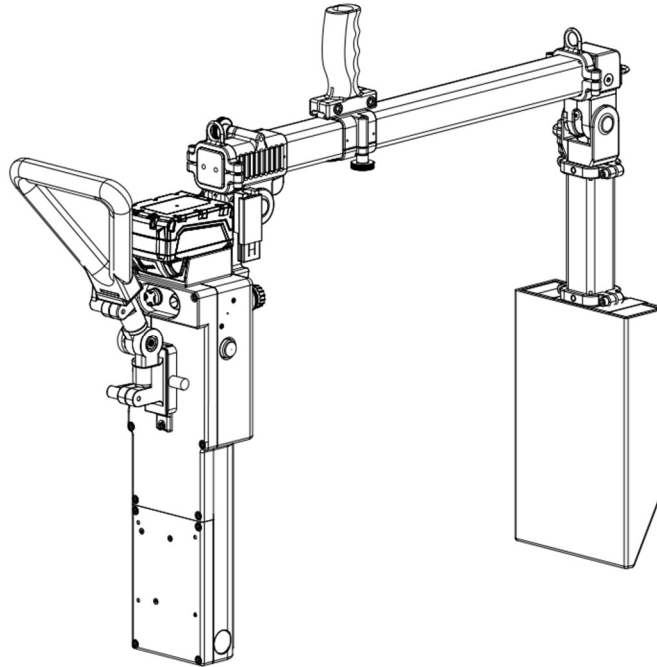

Figure 19 - Optional Handle Configuration Example
- The OpenVision DX utilizes standard picatinny rails and allows the handles and grips to be configured in multiple ways to suit different applications (Figure 19) shows one such configuration. The grip is moved to the top tube and the D-handle is moved to the main housing.